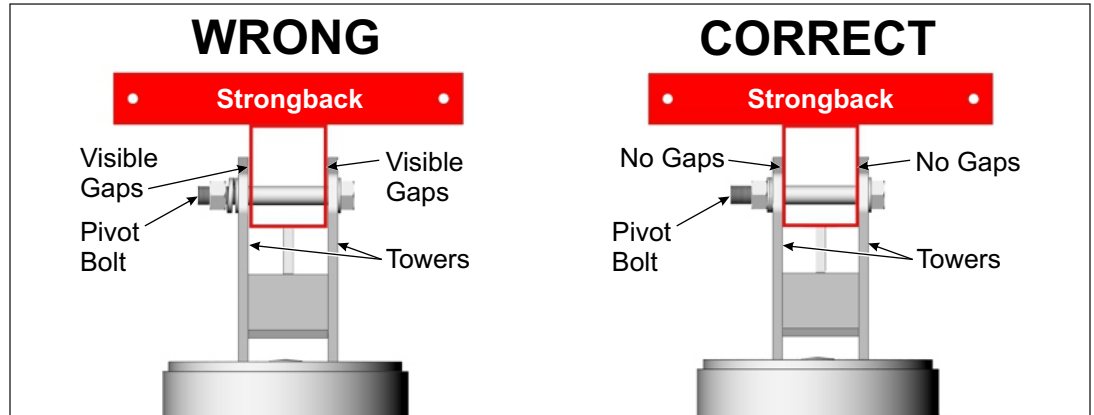

Figure 7-3: Tighten and Torque the Pivot Bolt
- C. After changing the tilt angle and tightening the Support Bar hardware, the Pivot Bolt must be re-tightened. The Pivot Bolt cannot be left loose - the Mounting Sleeve Vertical Towers must be firmly clamped to the sides of the Strongback eliminating any gaps between the Vertical Towers and the Strongback. **Torque to 125-150 ft.-lbs.** (See Figure 7-3)